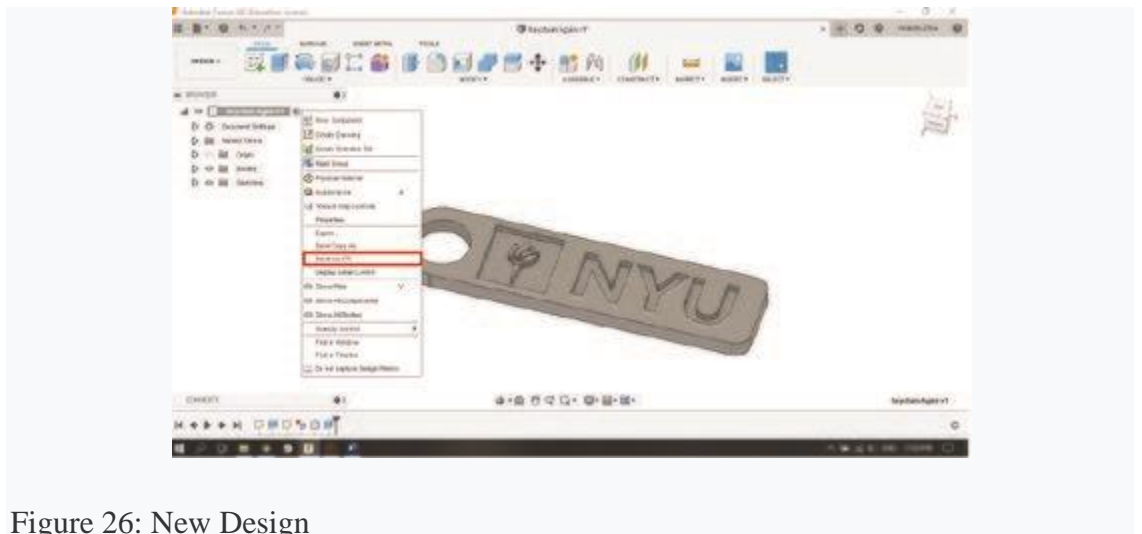

Figure 26: New Design
- b. Start a "New Design". (Figure 26)